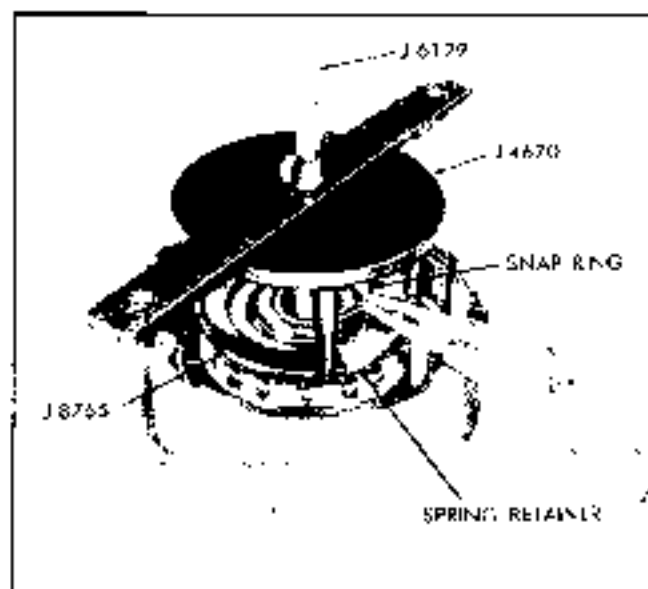

Fig. 7E-81 Removing Forward Clutch Spring Retainer Snap Ring
9. Remove inner and outer clutch piston seals (Fig. 7E-82).